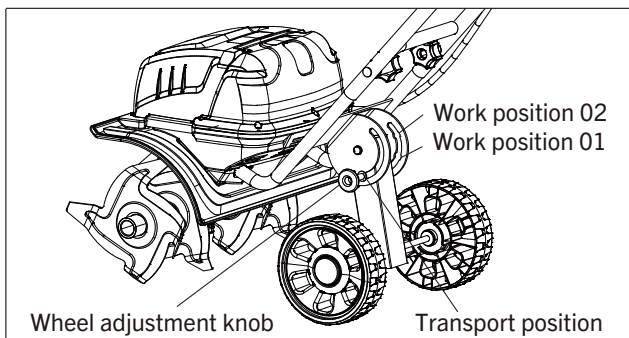

FIG. 6
2. To adjust the wheel position, push the wheel adjustment knob while moving it to the slot for desired position; let go of the knob and make sure it locks into position (Fig. 6).